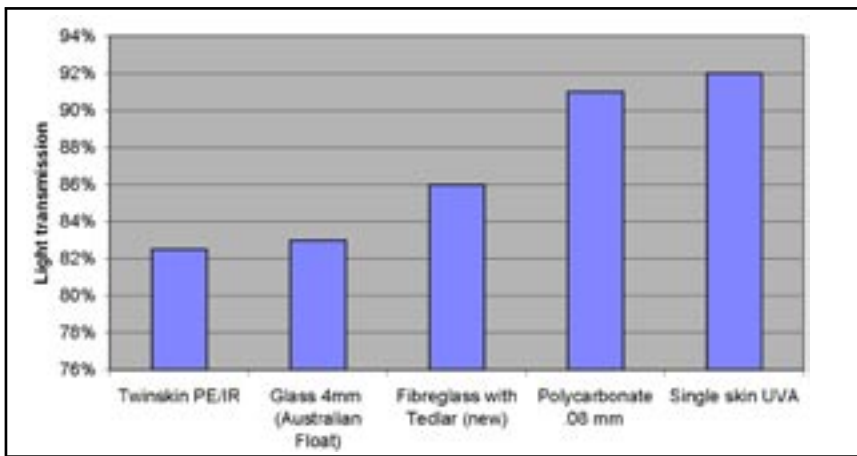

Figure 2. Light transmission of various coverings.
**Ultra Violet (UV) range 300–400 nm.** This is normally completely blocked in polycarbonate and plastic coverings giving less heat during the day and greater heat retention at night. It is important that when bumblebees and integrated pest management (IPM) predators are being used that sufficient light in the spectrum 360–380nm is available. UV-B blocking films can be used to reduce fungi activity, particularly botrytis.
**Photosynthetic Active Range (PAR) range 400–700 nm.** This is the range used by plants for photosynthesis. When considering light transmissions in this range it is important to understand the three different types of light transmission. Global light transmission is the total available light. Diffusion is the scattering of light to decrease shadows and provide a softer light to plant leaves. Diffusion may be varied from none for a clear material such as glass to 40% or 50% from a double skin plastic, fiberglass, or polycarbonate. Modern requirements indicate 40% diffusion where shadows do not exist as having a very beneficial effect on plants. Photosynthetic active range (PAR) is the light transmission in the photosynthetic active range 400–700 nm. Examples of PAR include (Fig. 2):